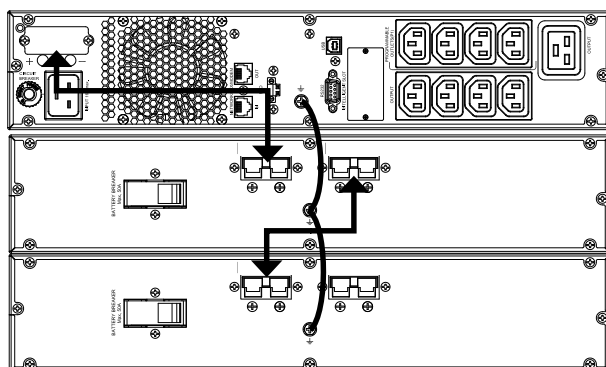

Fig. 9. Connection to battery modules.
Plug the connector at one end of the cable into the corresponding socket on the SPS.ADVANCE and the one on the other end into the battery module (see Fig.9).
Connect the earth cable to the corresponding points identified, either terminal or screw (see Fig. 9).
- Fig. 9 shows the connection of a 3 kVA device in a rack arrangement with two battery modules. For a larger number, proceed in a manner similar to those shown in the illustration.